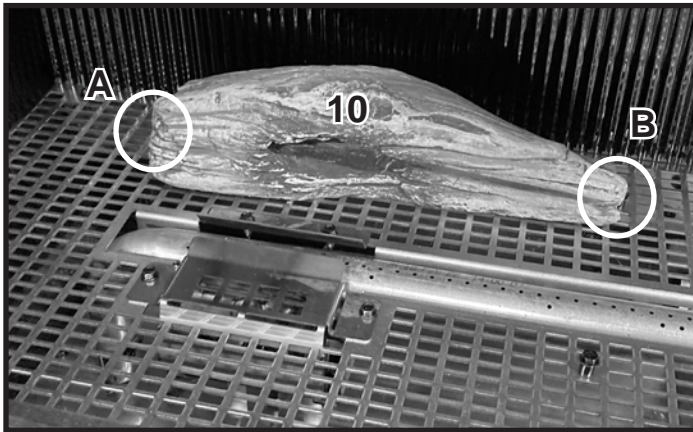

Figure 1 Install Log #10
**Log #10:** Place Log #10 in back left of firebox using log pins (A) and (B) for positive placement. Place the right side of Log #10 against log pin (B) and then pivot the left side of Log #10 back to meet log pin (A). See Figure 1.